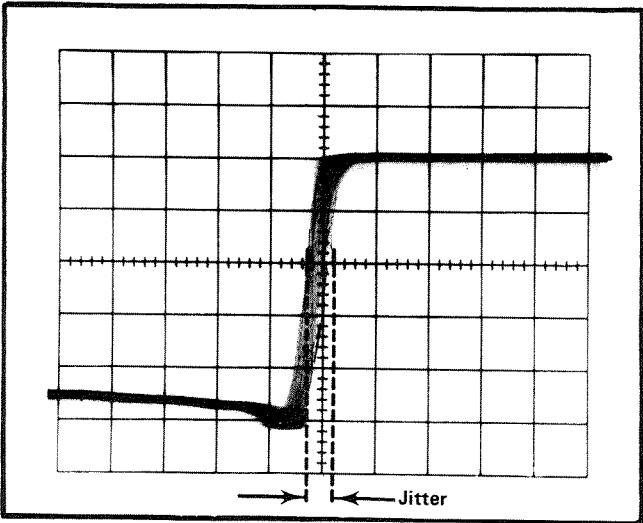

Fig. 2-15. Measuring pulse jitter.
**Example.** Assume that the horizontal movement is 0.5 divisions (see Fig. 2-15), and the B TIME/DIV switch setting is .5  $\mu$ s.